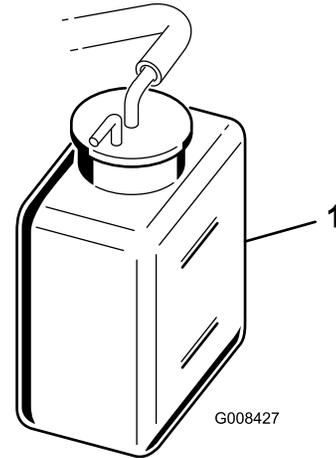

Figure 31
2. Check the coolant level (Figure 31). It should be between the lines on the reserve tank when the engine is cold.